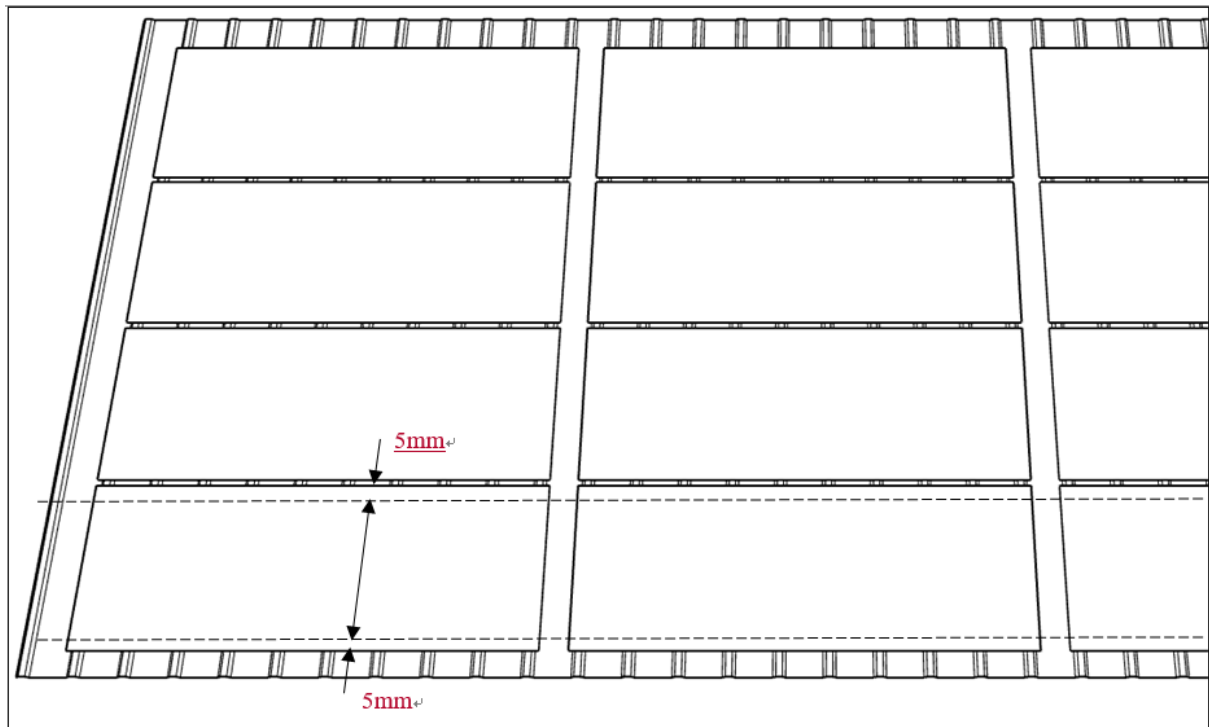

Figure 5
- ④ The length of each section of structural adhesive should be 1118mm, with a 5mm indentation at each end compared to the long edge of the Galaxy product (Figure 5).